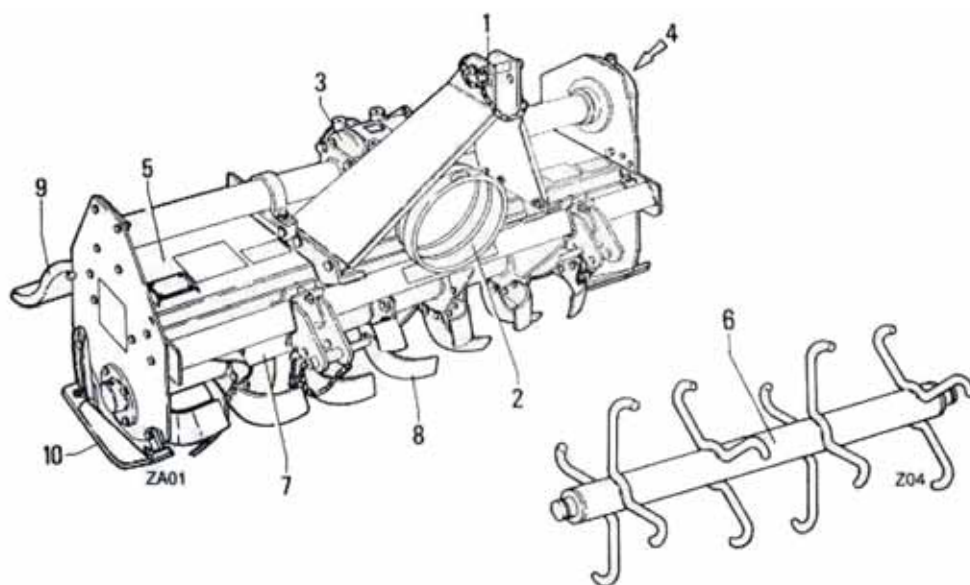

Figure 5
9. **Rear cover:** the cover can be moved (Fig. 5).
Important parts of Figure 5: